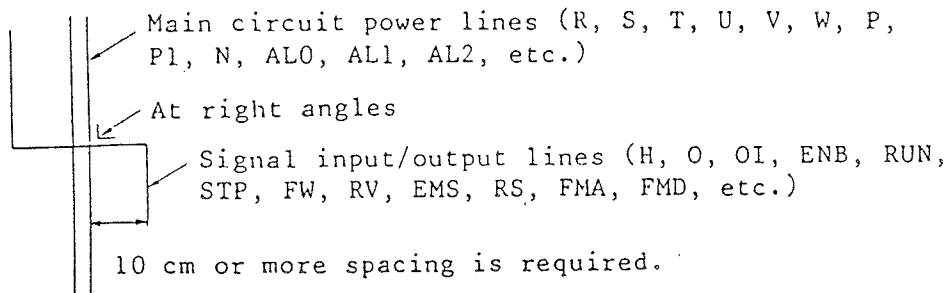

Figure 7 Separation of Lines
- (3) Do not insert an electromagnetic contactor between the inverter and the motor. If it is opened and closed, a line start current flows and the inverter trips. When this operation is repeated, elements are damaged. If use of an electromagnetic contactor is unavoidable, insert it when both the inverter and the motor are stopped.
- (4) Do not insert a phase advance capacitor between the inverter and the motor.
- (5) To connect the inverter to the operator unit, use shielded wires shorter than 20 m.
- (6) Separate the inverter signal line from the power line as shown in Figure 7 below. If cross-over is unavoidable, however, cross them at right angles.